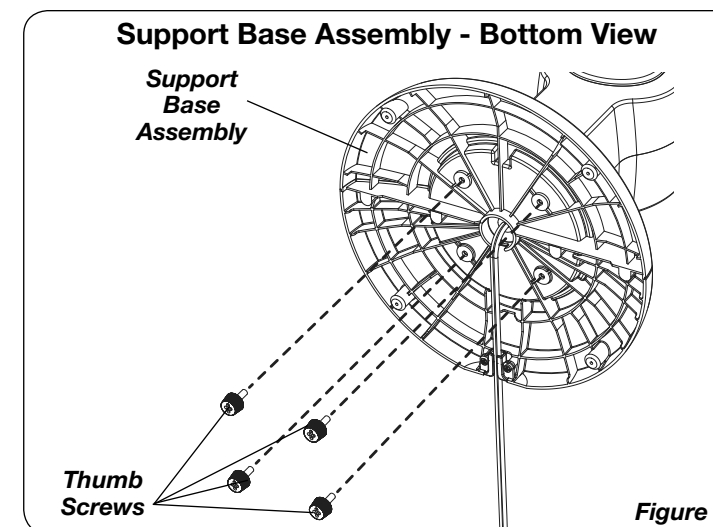

Figure 2
- Secure the (4) **thumb Screws** into the four holes in the bottom of the base. (**Figure 2**)